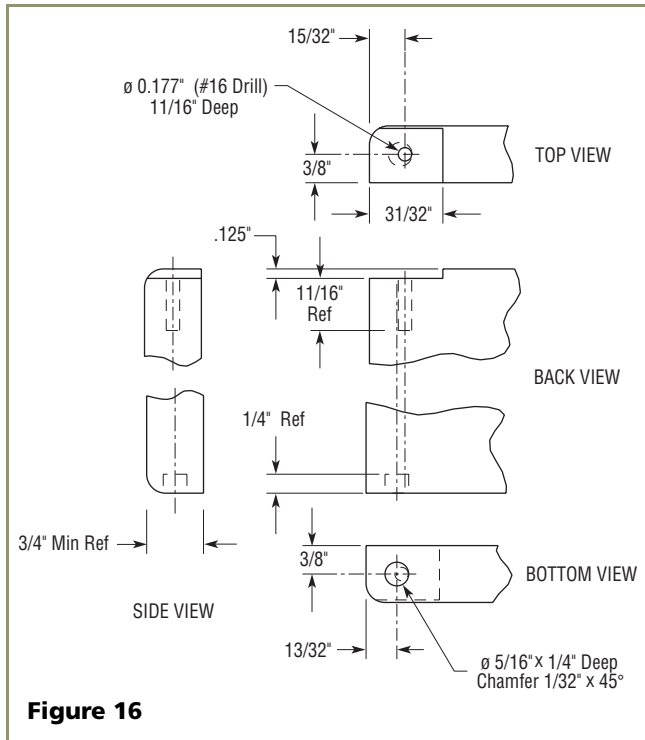

**Figure 15**
1. Cut the overlay to the following dimensions (see **Figure 15**).
2. Create a relief (**Figure 15**) for pivot plate by cutting notch in top corner of overlay panel. Refer to **Figure 16** for exact specifications.